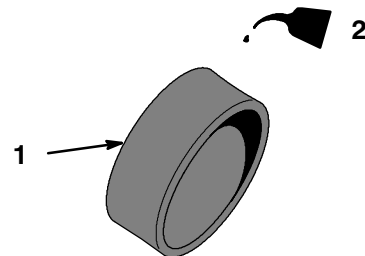

Figure 28
4. Saturate the element with clean engine oil (Fig. 28), squeeze out the excess oil, the wrap it in a clean rag and squeeze it as dry as possible. Be careful not to tear the element.